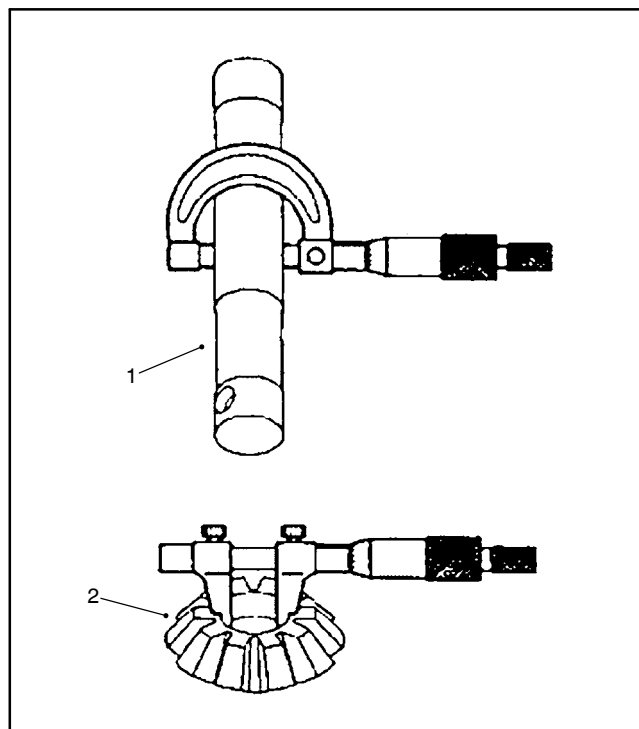

Figure 34
2. Measure the differential pinion shaft O.D. and the pinion gear I.D. to determine the pinion shaft to pinion gear clearance (Fig. 34). Replace components as necessary.